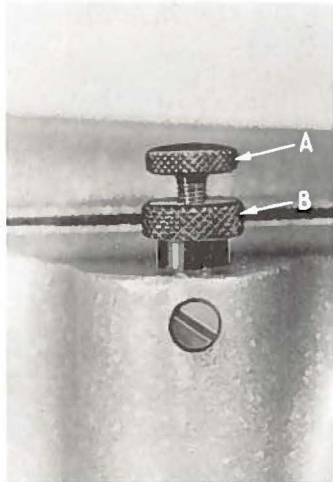
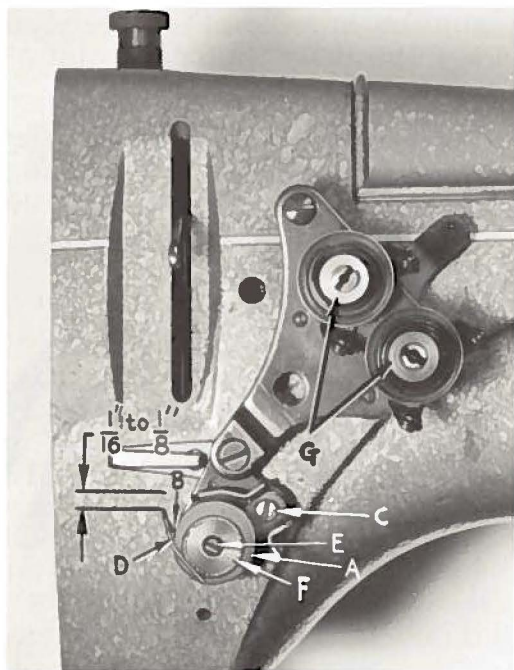

Fig. 12
Fig. 19
Fig. 12 illustrates the stitch regulator. For timing the hooks, it is recommended the regulator be turned to produce shortest stitch length. To do this, turn the lock screw (A) counterclockwise to loosen. Turn the stitch regulator (B) also counterclockwise as far as possible. Lock in position by turning lock screw (A) clockwise.
The take-up spring barrel (A, Fig. 19), which controls the needle thread should be set so that the lower spring stop is at the 9 o'clock position as shown (B, Fig. 19). Loosen
By sewing trials, adjust the needle thread tension (G, Fig. 19), check spring pressure and position (A), set the stitch length (A, Fig. 12) to required specifications.